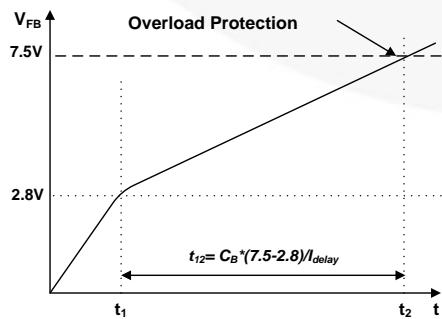

Figure 34. Overload Protection
4.1 Overload Protection (OLP): Overload is defined as the load current exceeding its normal level due to an unexpected abnormal event. In this situation, the protection circuit should trigger to protect the SMPS. However, even when the SMPS is in the normal operation, the over load protection circuit can be triggered during the load transition. To avoid this undesired operation, the overload protection circuit is designed to trigger after a specified time to determine whether it is a transient situation or an overload situation. Because of the pulse-by-pulse current limit capability, the maximum peak current through the SenseFET is limited, and therefore the maximum input power is restricted with a given input voltage. If the output consumes more than this maximum power, the output voltage (V_o) decreases below the set voltage. This reduces the current through the opto-coupler LED, which also reduces the opto-coupler transistor current, thus increasing the feedback voltage (V_{fb}). If V_{fb} exceeds 2.8 V, D_1 is blocked, and the 5 μ A current source starts to charge C_B slowly up to V_{cc} . In this condition, V_{fb} continues increasing until it reaches 7.5 V, then the switching operation is terminated as shown in Figure 34. The delay for shutdown is the time required to charge C_B from 2.8 V to 7.5 V with 5 μ A. In general, a 20–50 ms delay is typical for most applications. OLP is implemented in auto restart mode.